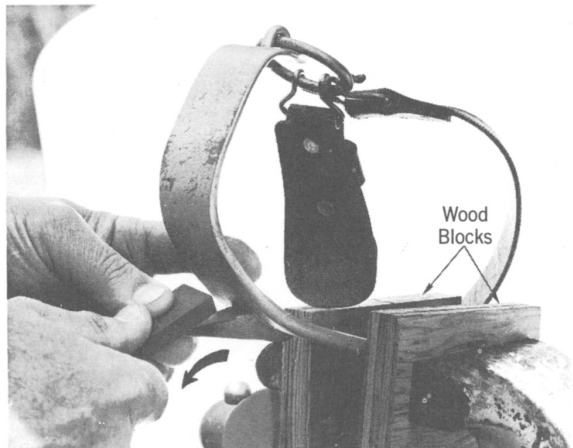

Fig. 21 — Honing Using Vise
7.05 When using a vise to hold a climber, always protect the leg iron by placing wood blocks between the vise jaws and the leg irons as indicated in Fig. 21. This prevents scoring the leg iron which may weaken it.